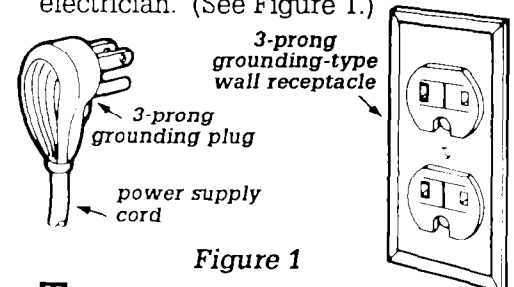

Figure 1
This appliance is equipped with a power supply cord having a 3-prong grounding plug. To minimize possible shock hazard, the cord must be plugged into a mating 3-prong grounding-type wall receptacle, grounded in accordance with the National Electrical Code ANSI/NFPA 70-latest edition and local codes and ordinances. If a mating wall receptacle is not available, it is the personal responsibility and obligation of the customer to have a properly grounded, 3-prong wall receptacle installed by a qualified electrician. (See Figure 1.)
10. Align the rear of the compactor with the cabinet opening. Plug the power cord into a properly grounded receptacle. (See Figures 1, 2 and 8.)